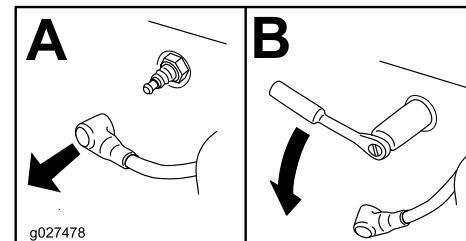

Figure 36
3. Remove the spark plug as shown in Figure 36.